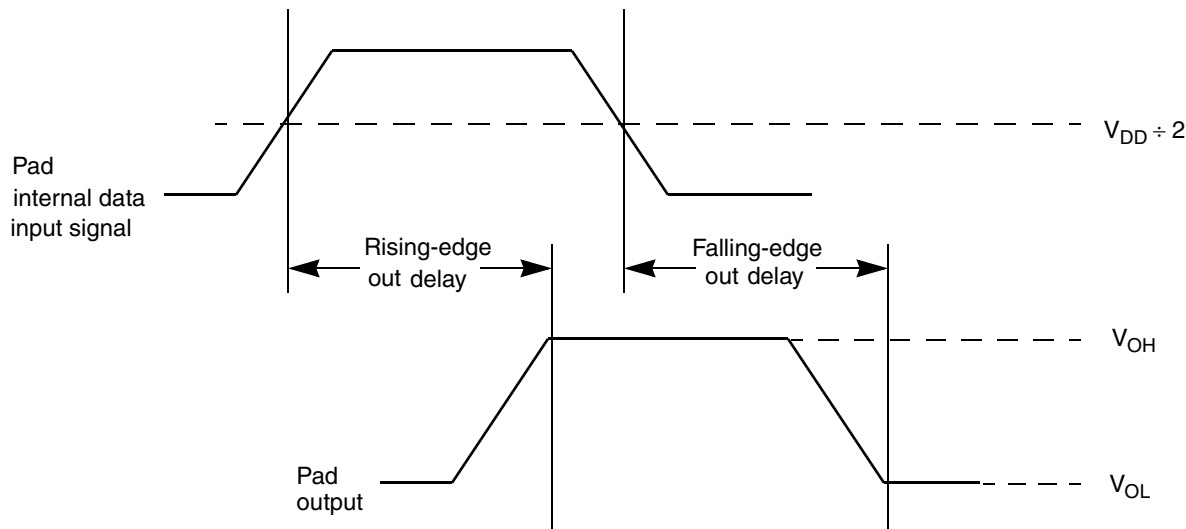

Figure 4. Pad Output Delay
³ The output delay is shown in Figure 4. To calculate the output delay with respect to the system clock, add a maximum of one system clock to the output delay.
- 4 The output delay is shown in Figure 4. To calculate the output delay with respect to the system clock, add a maximum of one system clock to the output delay.